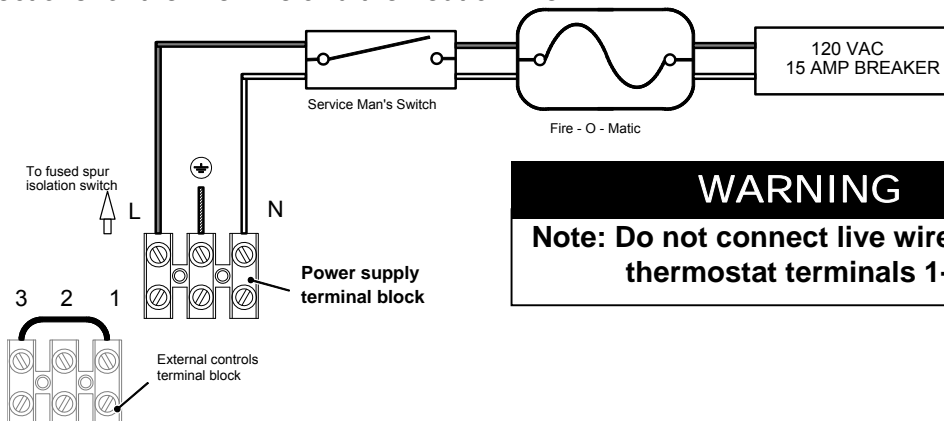

Figure 12.5
- Connect the electrical supply cable coming from the fused spur isolation switch to the power supply terminal block of the boiler (as shown in figure 12.5) keeping the same connections for the live wire and the neutral wire